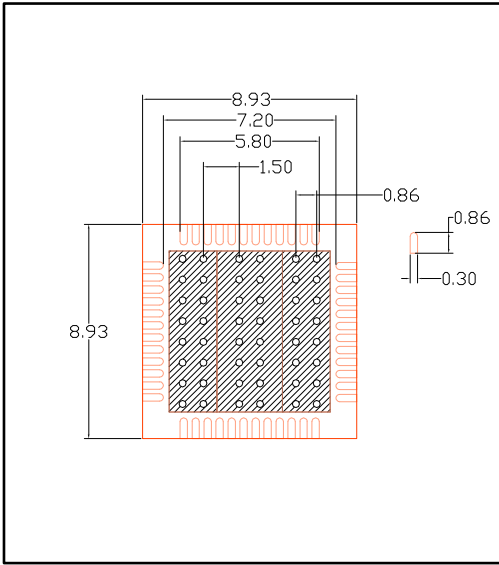
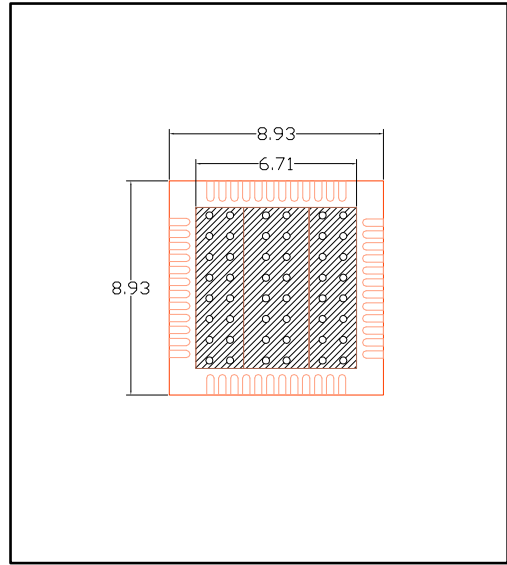
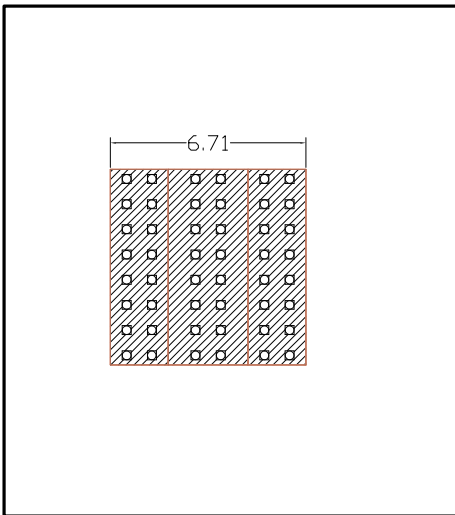
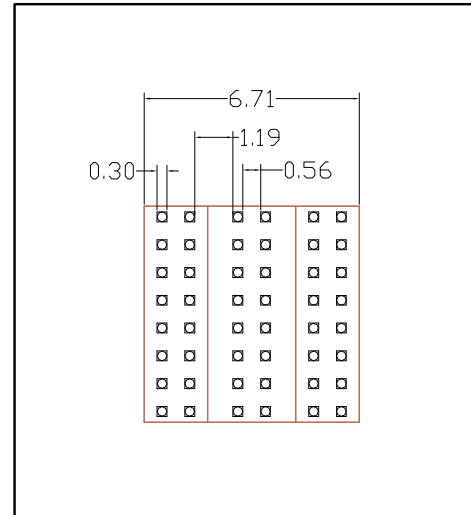

Figure 16: Thermal Pad Array Footprint (CS)
Figure 18: Solder Printing Mask (CS)
Figure 17: Thermal Pad Array Footprint (PS)
Figure 19: Solder Printing Mask (PS)
PCB design should consider the exposed pad of PD69104B. This pad is used for thermal cooling of the package. Basically, PCB should be designed as shown in Figure 16 - Figure 19.
See Figure 16 and Figure 17 (CS & PS) for a design layout of the recommended contact pad.
- If copper plating does not plug the vias, apply stencil print solder paste onto the printed circuit side. This provides sufficient solder paste, filling those vias to avoid the above mentioned voids. Figure 18 and Figure 19 show the associated, solder printing masks (CS & PS). The solder mask openings are lined-up in respect to the 6x6 thermal via array. Since large solder printing mask openings may result in poor release, the opening should be subdivided as shown in these figures.